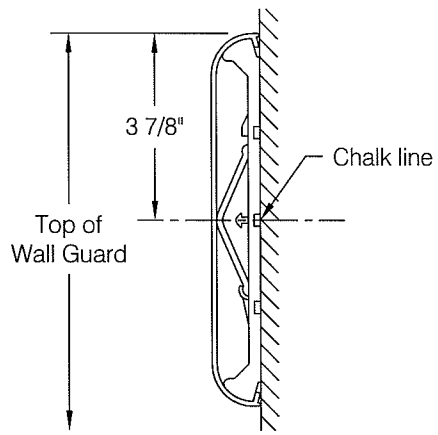

fig 1
Step 1: Determine top of wall guard height and snap a chalk line 3 7/8" below to locate centerline of wall guard and to provide a reference line for locating WG-8C Red-E-Clip® retainers, see **fig 1**.